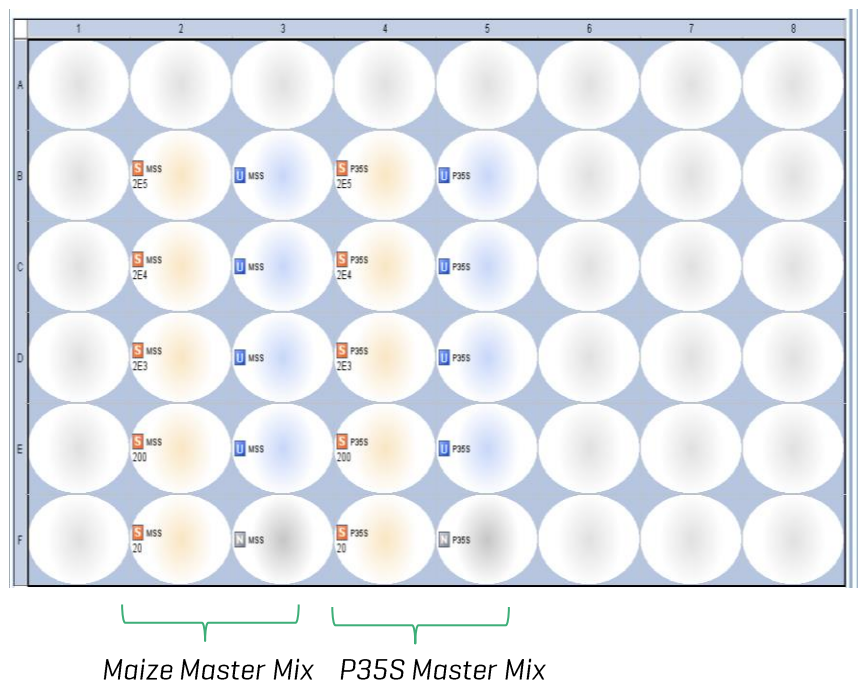

Figure 2: Proposed design analysis for 2 samples obtained from the same DNA extraction round.
5. Vortex and spin the 1.5 mL tubes and dispense 20 μ L per well or tube of 0.2 ml [see the example for three samples in figure 2].